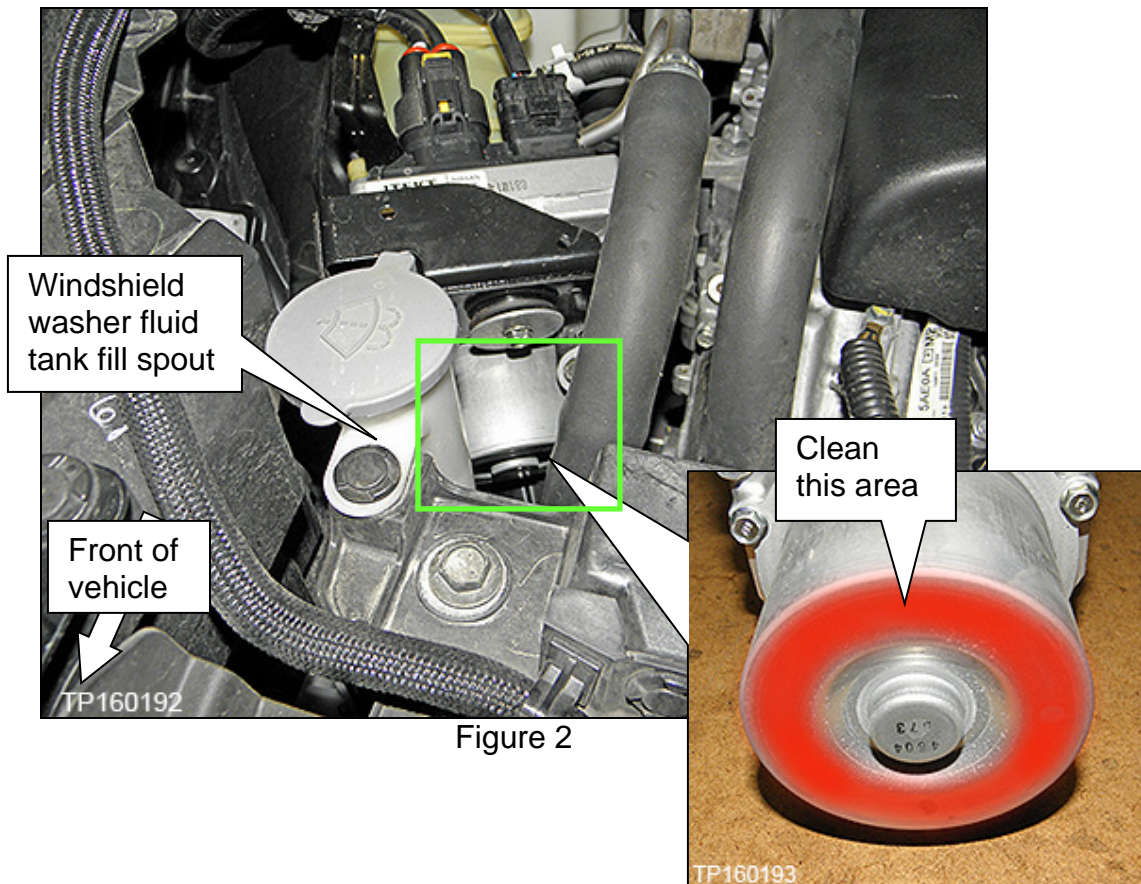

Figure 2
2. Clean the area where the adhesive will attach (Figure 2, and highlighted in red).